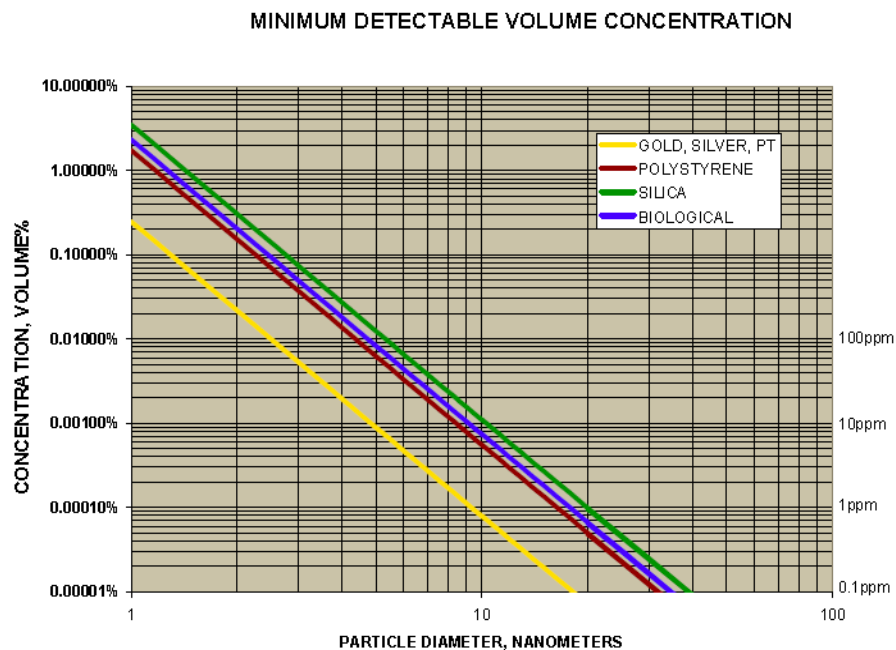

Fig. 5: Minimum detectable concentration for a S/N =1
4. From transparent beverage to carbon black, all samples can be measured, provided the sample concentration is not too small for the small size end – see Fig. 5 - or not too high for the high size end
There are detection limits in DLS: On the small size end it is the rapidly decreasing scattering intensity. For the 180° DLS realized in the Particle Matrix NANO-flex the minimum concentration is given in figure 5. In the high size range, the scattering is comparably strong. A few particles in the high size range represent a statistically bad situation. Depending on the manufacturer and the applied software features, big particles are either sorted out by the software as “dust” or taken into account, whereby the statistical significance suffers. In the 180° DLS intensity mode both ends are seen, provided the sample concentration at each fraction of the size distribution allows it. Examples are shown in the application section of this exposé.